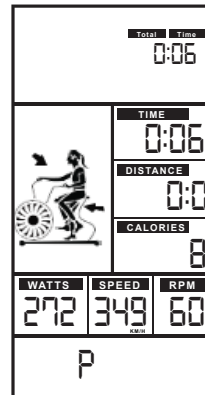
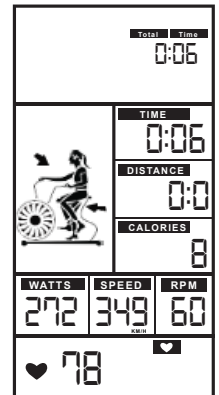

Figure 17
Figure 18
- 1 In Standby mode, press **START** to start workout quickly, the buzzer sound 1 second. **TOTAL TIME/ TIME/ DISTANCE/ CALORIES/ WATTS/ SPEED/ RPM** start to count up (Figure 17).
- 2 Whenever there is Pulse signal input, will light up and symbol will flash and display pulsevalue (Figure 18). Without pulse input, it will display "P" (Figure 17).